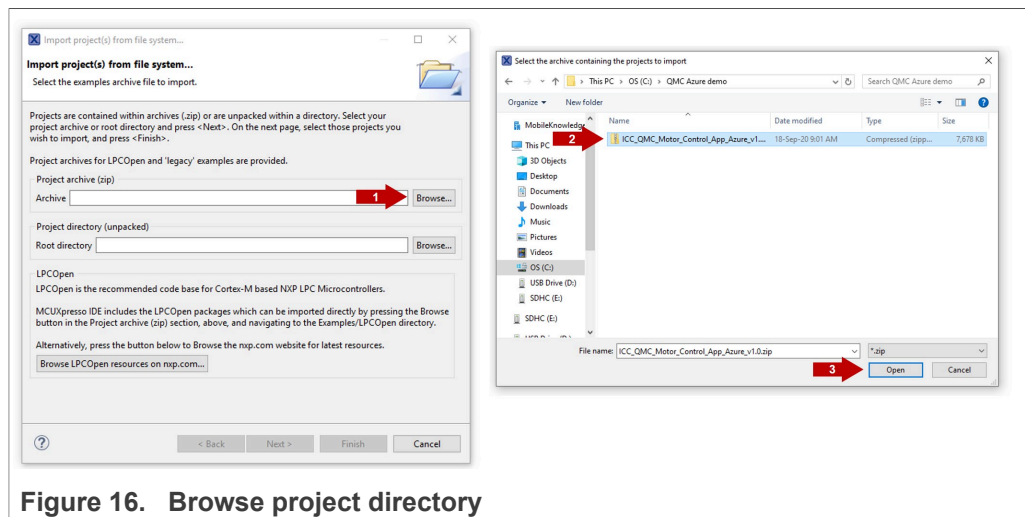

Figure 16. Browse project directory
- 4. (1) Click the **Browse** button in project archive (zip) section, (2) navigate to the directory location where you previously downloaded the zip file from [www.nxp.com/quadmotorcontrol](http://www.nxp.com/quadmotorcontrol) website in the section of **Tools and Software** with the name of **MCUXpresso Project sample code with Azure** and select **ICC\_QMC\_Motor\_Control\_App\_Azure** project, and (3) click **Open**, as shown in Figure 16: